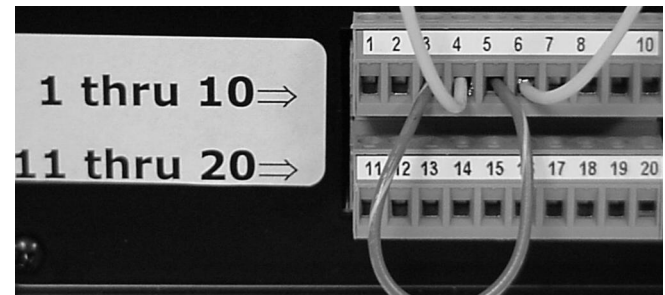

Figure 29. Pushbutton Wires
2. Connect one wire from pushbutton to terminal #4 (12 VDC power supply) and the other wire from the pushbutton to terminal #6 (extend/retract) (see Figure 29).